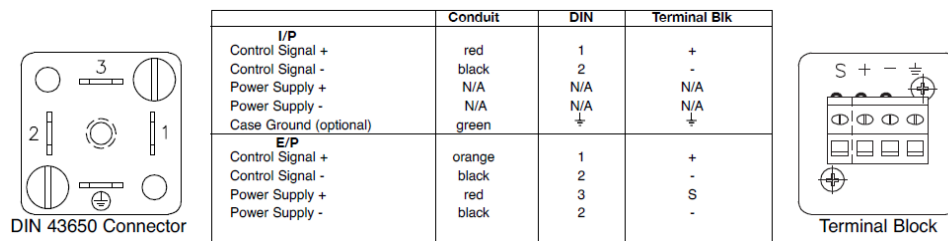

Figure 5
- 2.5.3 DIN Connection (current to pressure) Electrical connections are made to terminal 1 (+) and 2 (-). The ground symbol is furnished for a case ground (see figure 5).
- 2.5.4 DIN Connection (voltage to pressure) Electrical connections are made to terminal 1 (+ signal), 2 (- return for both supply and signal) and 3 (+ supply). The ground symbol is furnished for case ground. Recommended supply voltage is 7-30 v DC (see figure 5).
- 2.5.5 Terminal Block Connection (current to pressure) Electrical connections are made to + (positive) and - (return) terminals. The ground symbol is furnished for case ground (see figure 5).
- 2.5.6 Terminal Block Connection (voltage to pressure) Electrical connections are made to S (+ power supply), + (+ control signal) and - (return for both supply and signal). The ground symbol is furnished for case ground. Recommended supply voltage is 7-30 v DC (see figure 5).